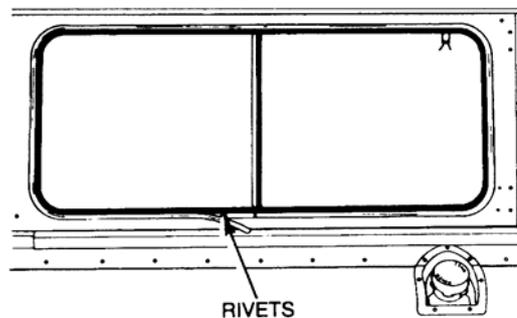

Figure 34 Filler Strip Removal
- Remove the rubber filler strip from the groove in the glazing rubber (refer Figure 34) to expose the rivets.
- jj. Position the window frame in the body aperture and secure with rivets (refer Figure 34).